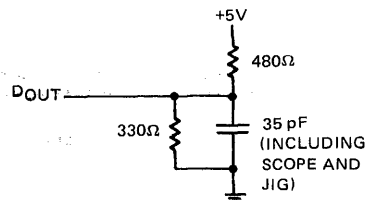

Figure 2
- Notes: ① \overline{WE} is high for read cycle.
② Transition is measured $\pm 500 \text{ MV}$ from steady state with load of Figure 2. This parameter is sampled and not 100% tested.